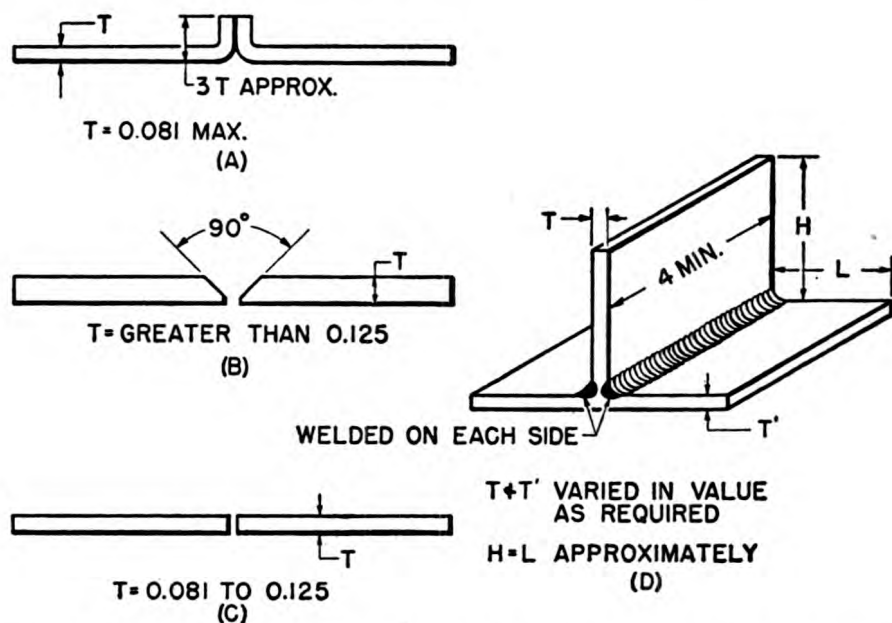

Figure 51.—Welding samples of flanged, butt, and fillet joints on aluminum sheet.
They are the flanged joint on metal 0.081 inch thick like (A) of figure 51, the butt joint on metal from 0.081 to more than 0.125 inch like (B) and (C) of figure 51 and the fillet T joint as in (D) of figure 51.
Thicknesses of metal between 0.081 and 0.125 inch need not be beveled or flanged. Their normal square shape is O. K. For the butt joint in sheet aluminum of MORE THAN 0.125-inch thickness, you must bevel the edges at 45° angles to form an included angle of approximately 90° as in (B) of figure 51.